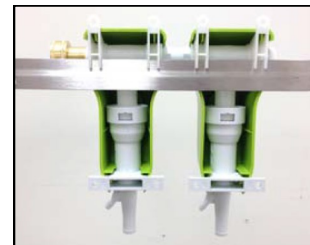

Figure 4
- Connected units can be mounted using the optional joggle bracket (7.5" joggle bracket : 7225698-01 & 11.5" joggle bracket : 7225698-02). **See Figure 4**
- (1) Remove the brass inlet fitting from the right side by turning it counter-clockwise with a pair of pliers.
- (2) Remove the plastic plug from the left side by turning it counter-clockwise with an 11/16" wrench.
- (3) Thread the brass inlet fitting into the left side by turning it clockwise until hand-tight, then go 1/4 turn with the pliers.
- (4) Thread the plastic plug into the right side by turning it clockwise until hand-tight, then go a 1/4 turn with the wrench.